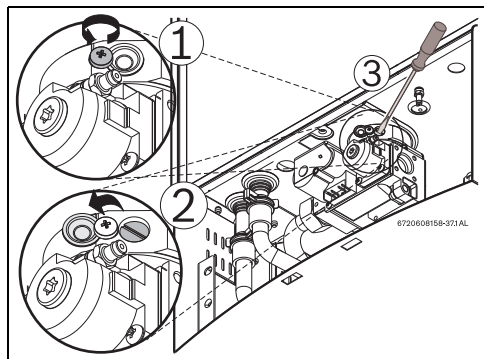

Fig. 61 Adjusting P1 CO₂ level
- ▶ Loosen yellow painted Phillips screw (1) and cover should rotate down (2) revealing a recessed brass slotted screw, fig. 61.